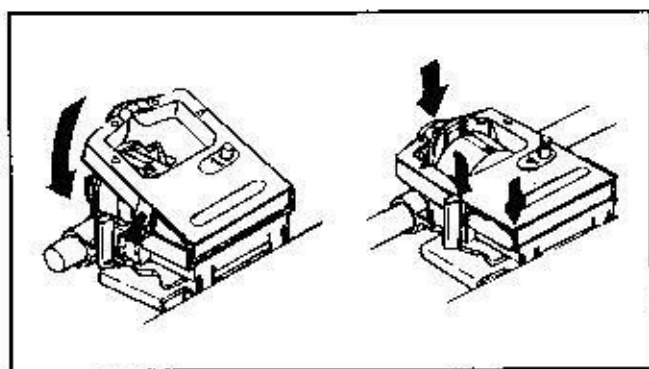

Figure 3-5
2. Lower the ribbon shield over the printhead, aligning the tabs with the inserts on the printhead plate (see Figure 3-5).